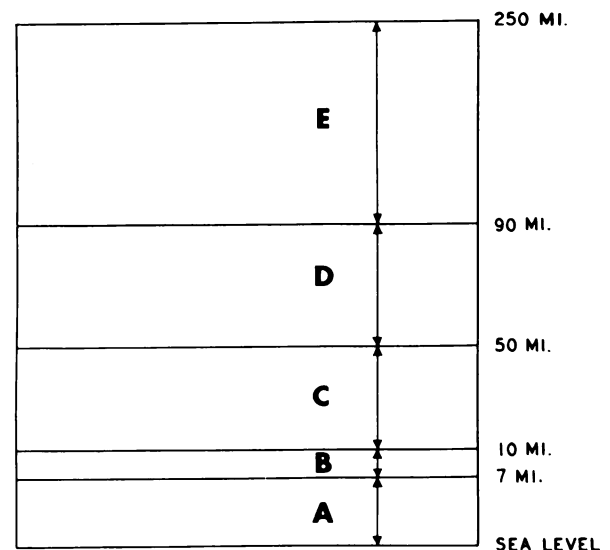

Figure 1A.—Diagram representing the atmosphere divided into regions.
27. If the air density at the bottom of region A in figure 1A is approximately 0.075 pounds per cubic foot, what is the density at the top of region A?
28. Because of the continuously decreasing air density, the drag on a rising missile decreases. The decrease in drag per unit change in altitude is greatest in the region of figure 1A labeled
1. top of region A in figure 1A
2. middle of region A in figure 1A
3. middle of region B in figure 1A
4. top of region C in figure 1A
30. The temperature remains fairly constant in the region of figure 1A labeled
31. If the air temperature at sea level is  $30^{\circ}\text{ F.}$ , the air temperature in the middle of region A in figure 1A is about
32. During its rise a missile is exposed to the greatest atmospheric temperature variation rate in the region of figure 1A labeled
1. region D in figure 1A only
2. regions C and D in figure 1A
3. regions D and E in figure 1A
4. region E in figure 1A only
34. If a rising missile is traveling at a constant speed of 580 knots, in which of the following regions in figure 1A does it exceed Mach 1?